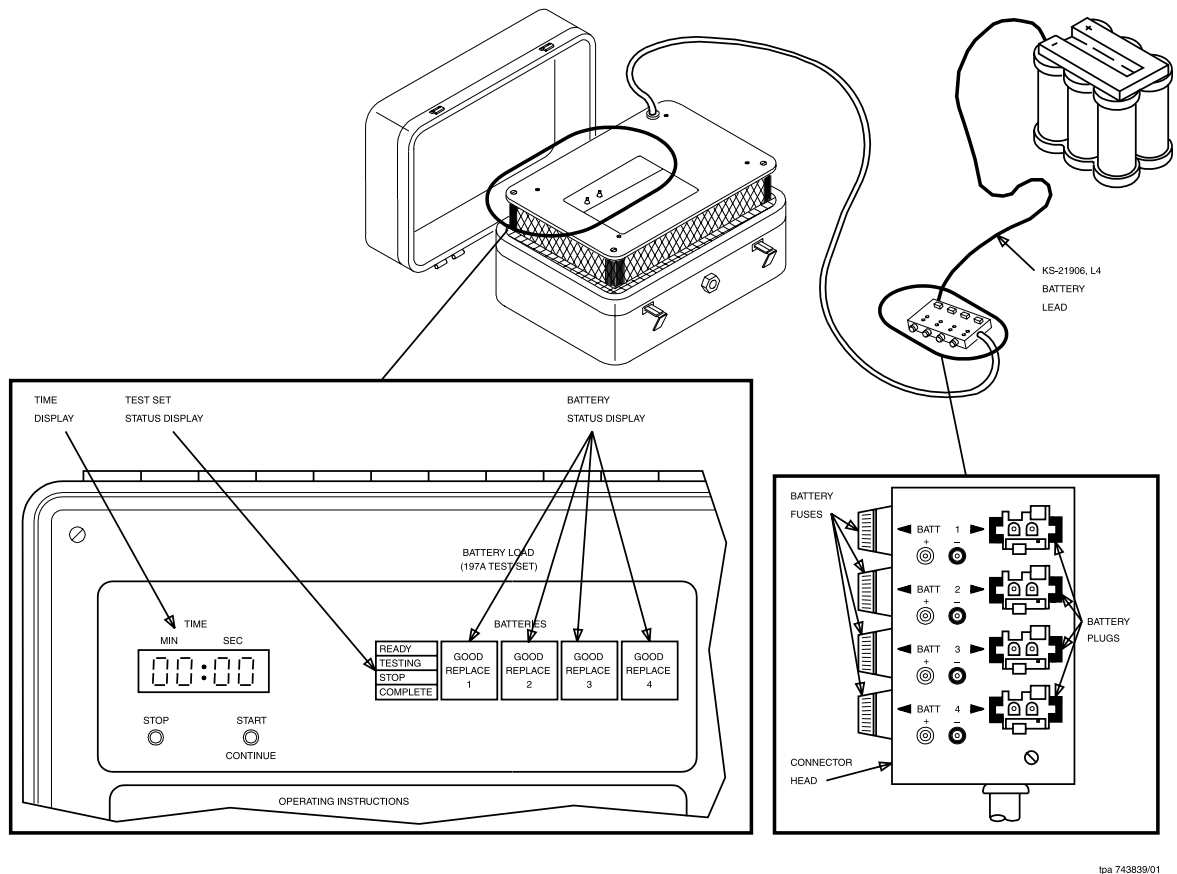

Figure 1 – 197A Battery Load Test Set Arrangement
1. Obtain 197A BATTERY LOAD TEST SET. See Figure 1.